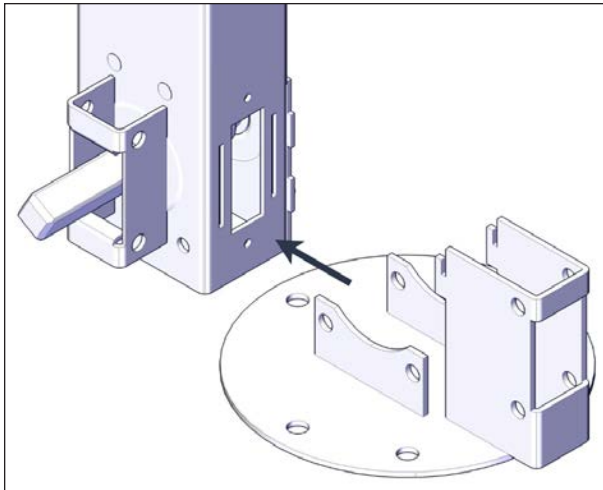
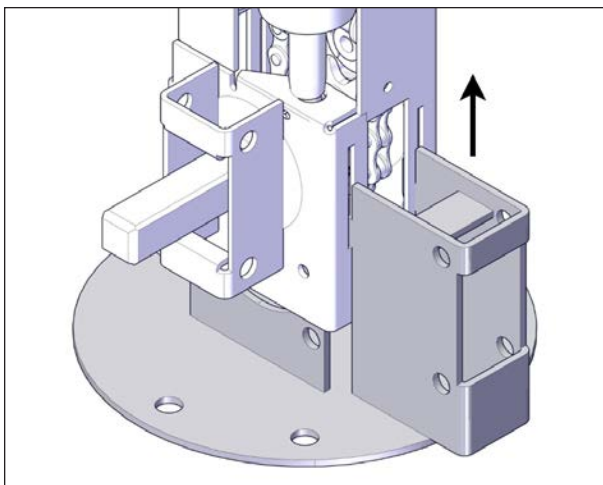

FIGURE 48: FOOT BRACKET INSTALLATION
FIGURE 49: INSERT LEGS IN SLOTS
2. Install a foot bracket to the non-motor side jack. Make sure to align the foot bracket on the right side of the U-frame shaft as shown see Figure 48.
- Slide the alignment vertical legs of the foot in the bottom alignment slots of the jack see Figure 48 and Figure 49.
- Push upwards to lock in place see Figure 49. Make sure to get a full contact with the bottom plate. Use a rubber mallet if necessary.